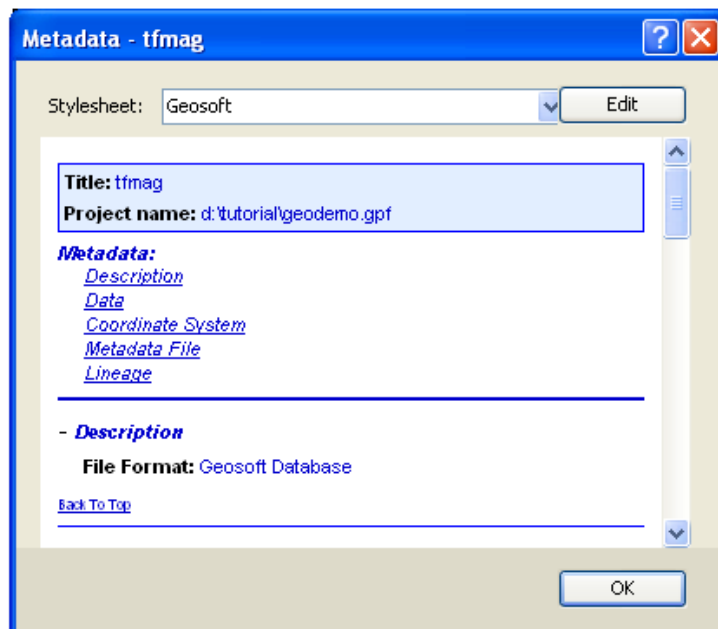

Figure 1.79. – Metadata panel
3. Using the *Browse* button, locate the *Database file* and click the [OK] button (or *Map file*, *Grid file*, etc.). The *Metadata - file name* dialog is displayed, fig. 1.79.